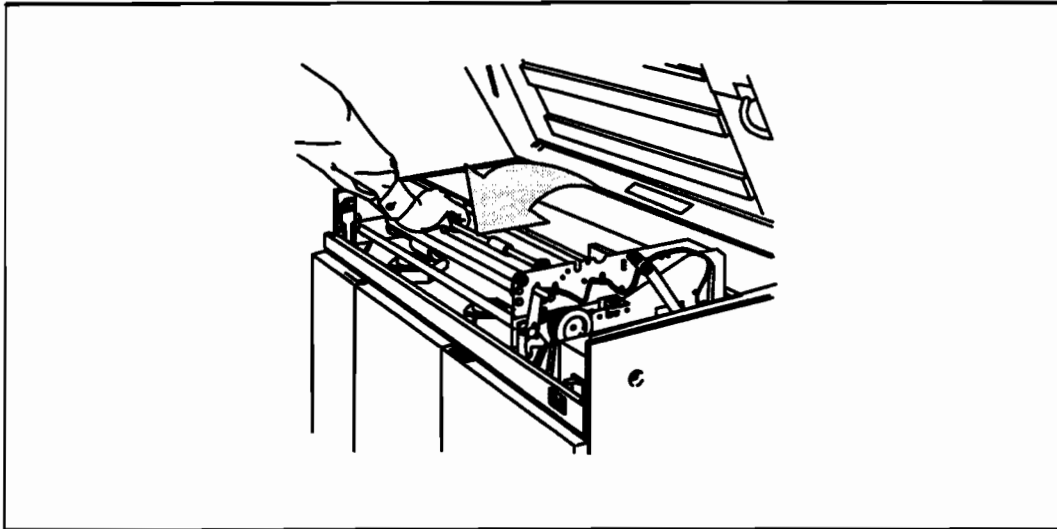

Figure 3-25. Locking the Feed Roller Assembly Forward
12. Swing the media feed roller assembly (located at the front of the upper frame) up and forward into the locked-open position. See Figure 3-25.